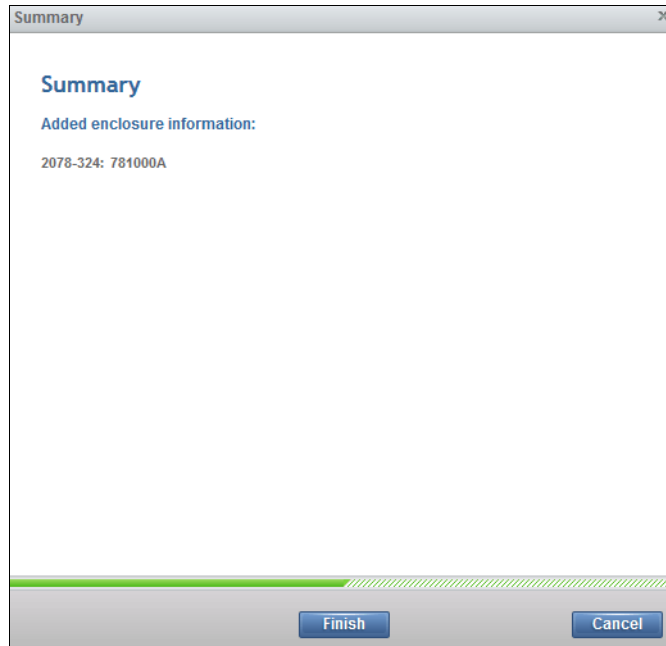

Figure 2-41 Added enclosure summary
4. The new control enclosure is added to the system as shown in Figure 2-41. Click **Finish** to complete the operation.